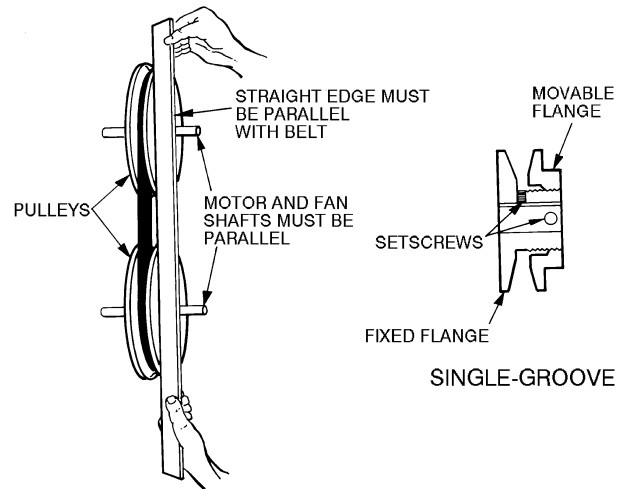

Fig. 35 — Evaporator-Fan Pulley Adjustment
3. Loosen movable pulley flange setscrew (see Fig. 35).